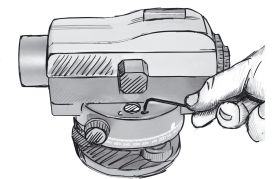

Figure 8
e) Repeat steps from A to D until the bubble vial doesn't deviate from the center (Figure 8).